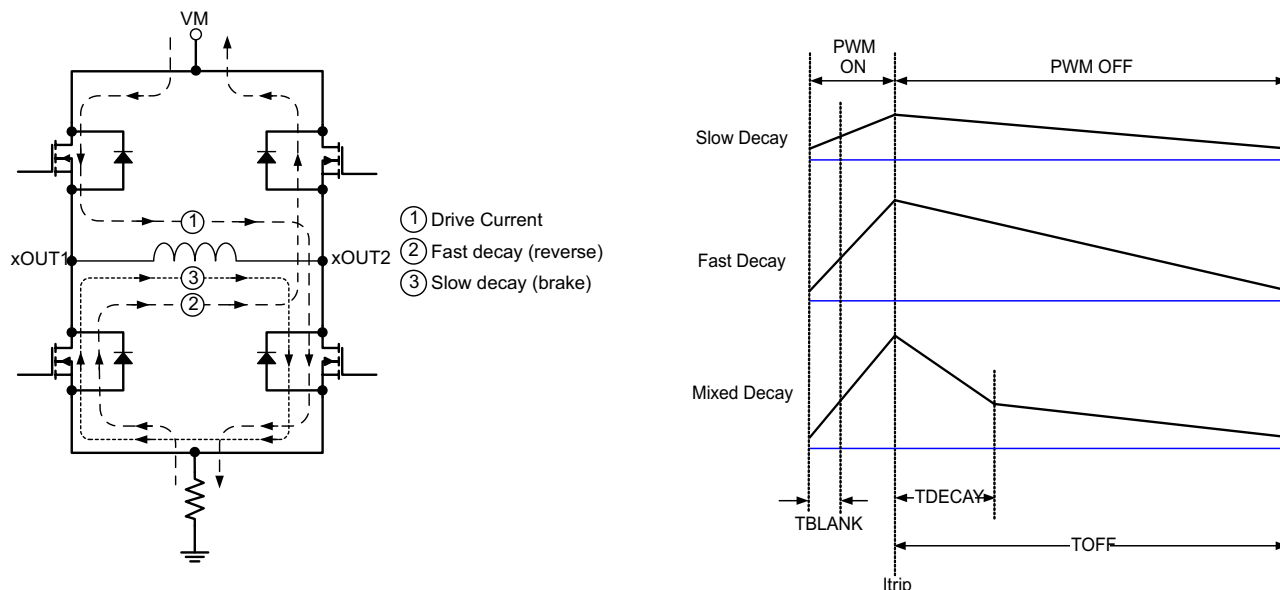

Figure 9. Decay Modes
During PWM current chopping, the H-bridge is enabled to drive through the motor winding until the PWM current chopping threshold is reached. This is shown in Figure 9, Item 1. The current flow direction shown indicates positive current flow in the step table below.
In fast decay mode, once the PWM chopping current level has been reached, the H-bridge reverses state to allow winding current to flow in a reverse direction. The opposite FETs are turned on; as the winding current approaches zero, the bridge is disabled to prevent any reverse current flow. Fast decay mode is shown in Figure 9, item 2.
In slow decay mode, winding current is recirculated by enabling both of the low-side FETs in the bridge. This is shown in Figure 9, Item 3.